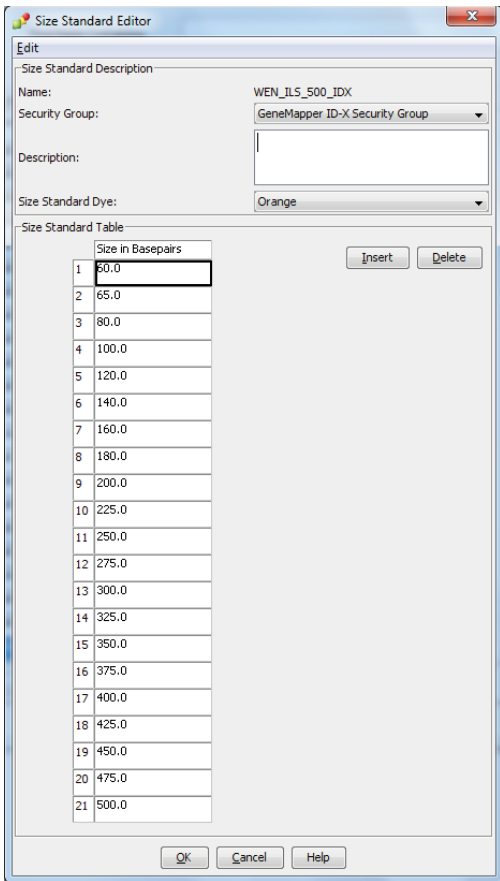

Figure 11. The GeneMapper® ID-X Software Size Standard Editor.
4. In the ‘Size Standard Editor’ window (Figure 11), select **GeneMapper ID-X Security Group** as the Security Group. This allows access for all users of the software. Other security groups may be used.